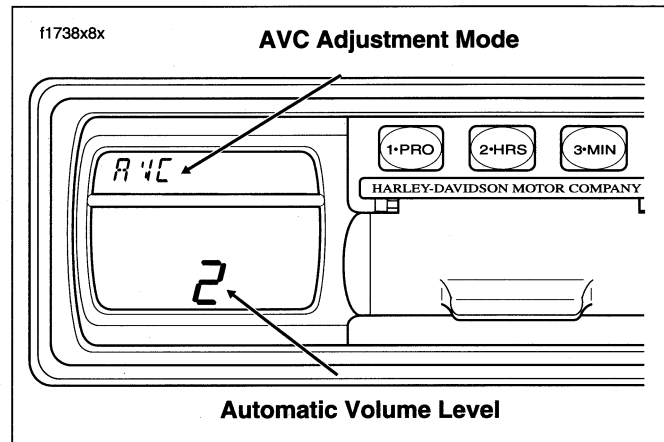

Figure 48. Adjust Automatic Volume Control
2. Continue pushing the LO/DX button on the front panel of the radio to sequence to the AVC adjustment screen. The letters "AVC" are displayed in the upper portion of the LCD display, while the automatic volume level number appears in the lower portion. See Figure 48.